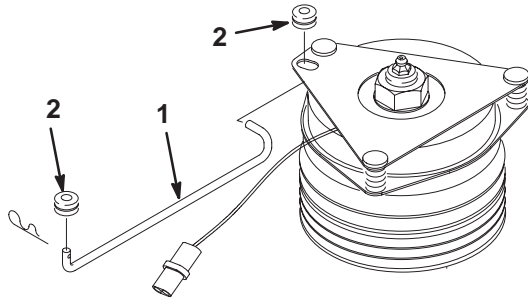

Figure 2
5. Remove the hair pin cotter securing the clutch rod to deck (Fig. 2). Unhook the clutch rod from the deck. Remove and discard the grommet from the hole in the deck and in the clutch plate.